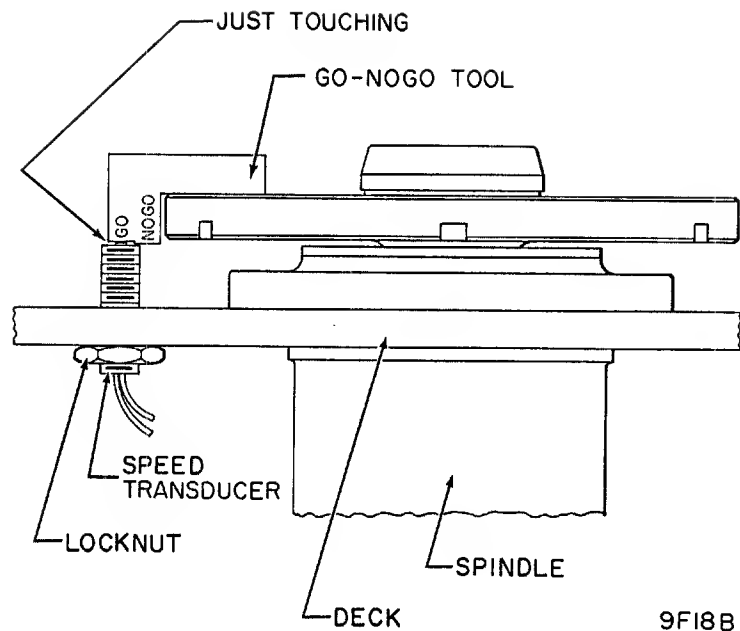

Figure 2-28. Speed Transducer Adjustment
2. Check dimension from top of speed transducer to top of spindle face plate as shown in figure 2-28. If adjustment is required, proceed to step 3.